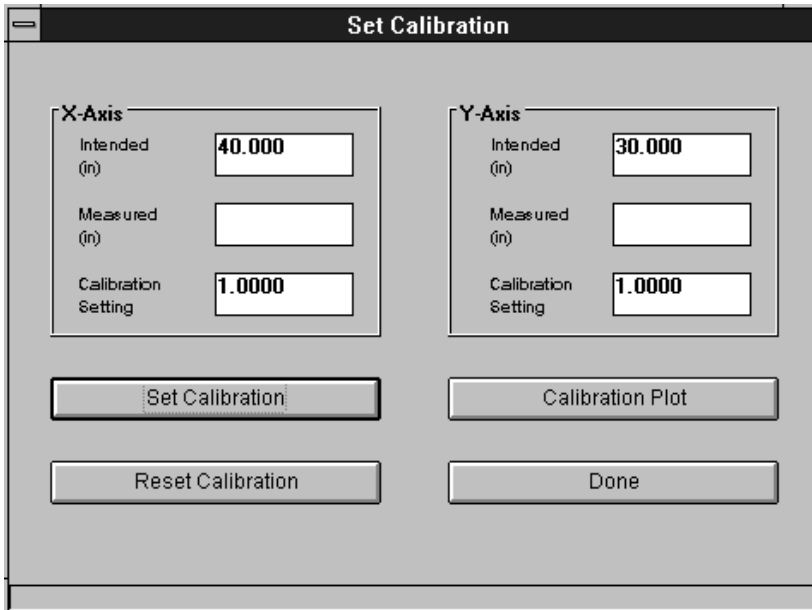

Figure 25. Calibration screen.
1. Select *Calibrate, Calibrate Plotter* from the menu bar. A window like *Figure 25* will appear.